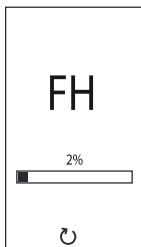

fig. 8 - Vent with fan on
- For the next 20 seconds the display will show FH which identifies the heating system air venting cycle with the fan running (*fig. 8 - Vent with fan on*).